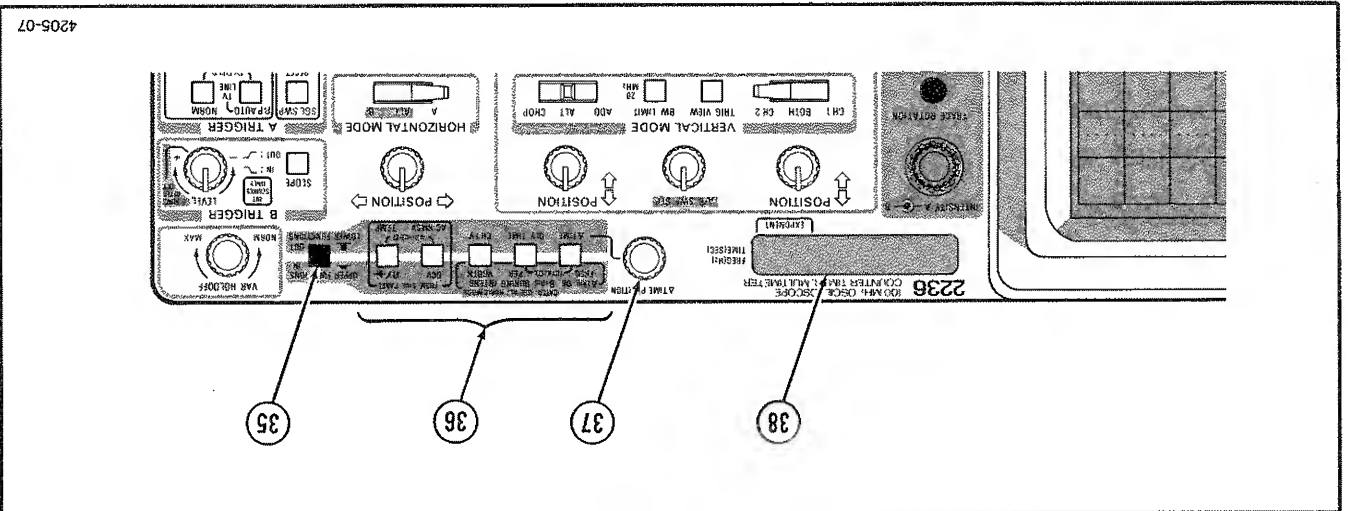

Fig. 2-7. Counter, timer, and multimeter controls and indicators.
Refer to Figure 2-7 for location of items 35 through 38.